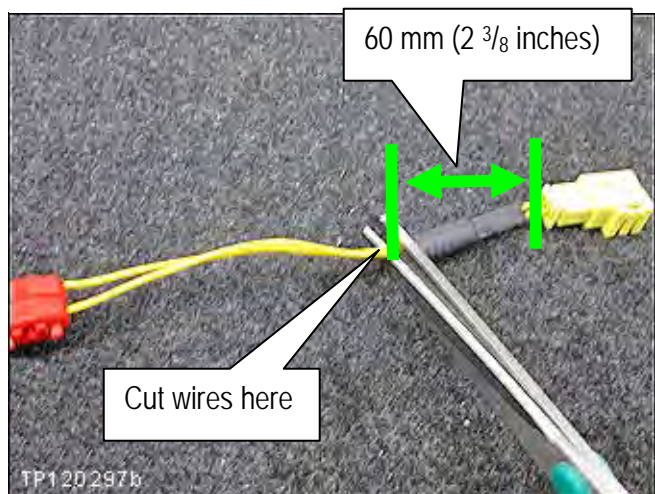

Figure CR11
- 8. Cut the SAB harness wires 60 mm (2 3/8 inches) from the back side of the SAB connector (see Figure CR11).